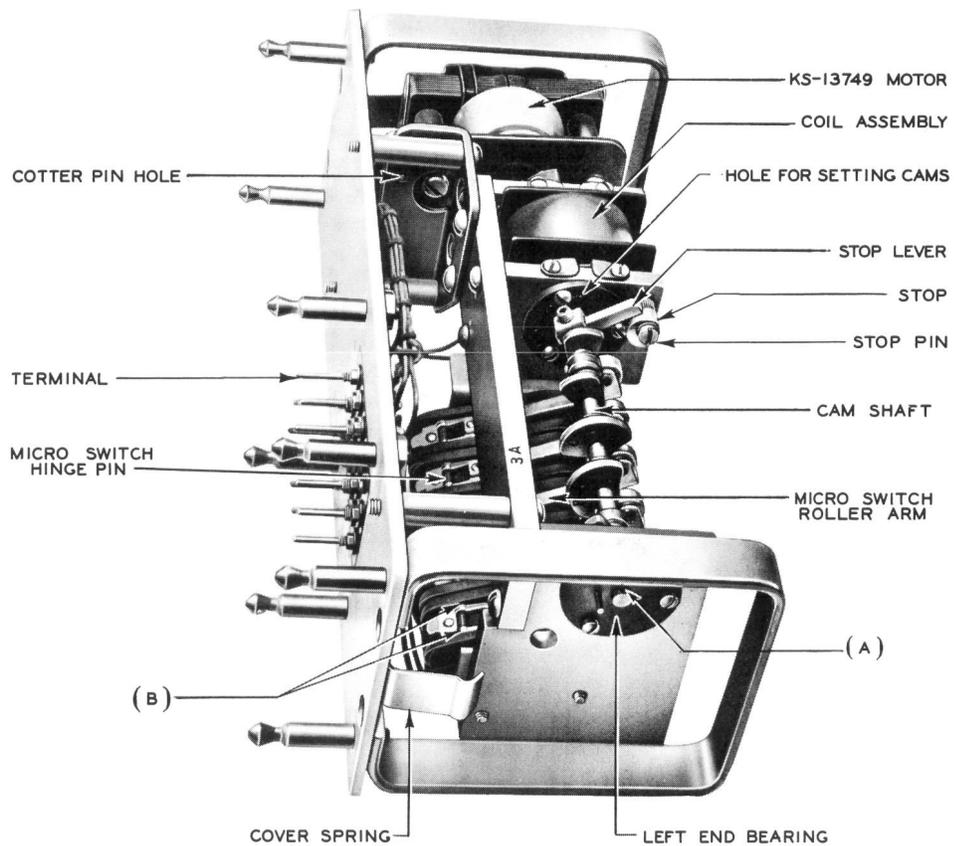

Fig. 3 - 3A Timer
Left End Bearing Fig. 3(A)	1 dip
Micro Switch Hinge Pins Fig. 3(B)	1 dip distributed between the hinge pins of all Micro Switches. Lubricant shall be applied between the roller arms and cases of each side of each hinge pin.